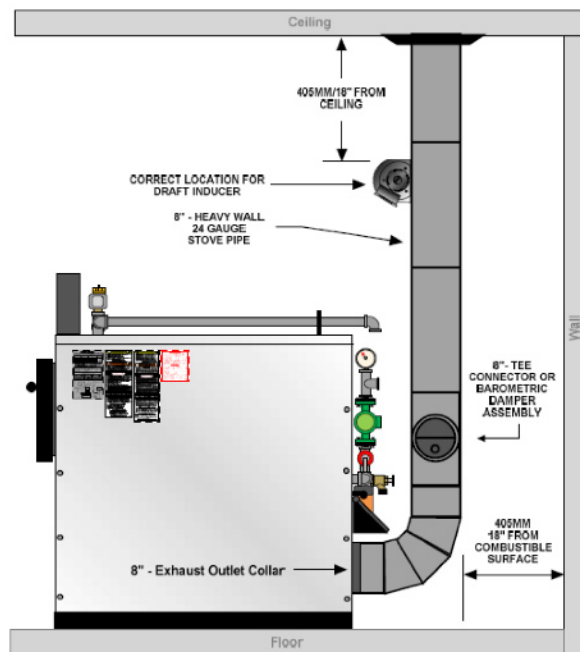

Figure 2 – Through Ceiling Configuration
**For a through ceiling configuration, the unit must be located 18” from the ceiling. (See figure 2 – Through Ceiling Configuration)**